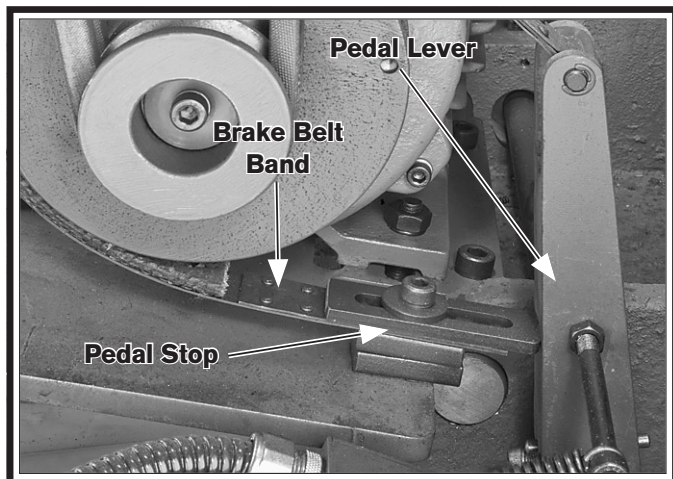

Figure 126. Brake belt adjustment components.
5. Remove the pedal stop shown in **Figure 126**.